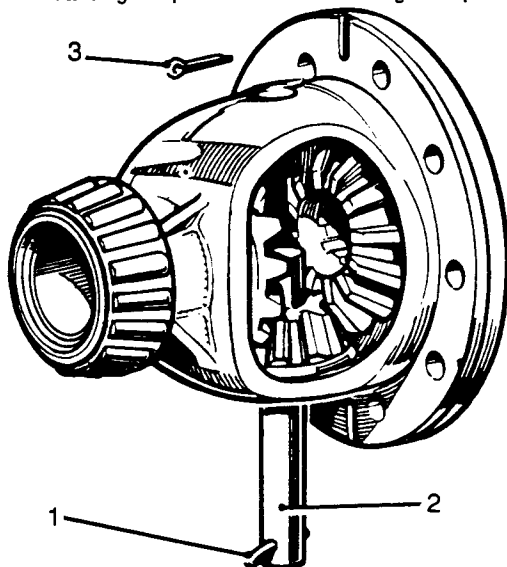

Fig J2.60
- (4) Refer to Fig J2.60. Ensure that the plain pin (1) is secure in the pinion spindle.
- (5) Fit the spindle (2).
- (6) Check for backlash between the differential wheel and pinions, a manual check is sufficient, no actual measuring is necessary. There must be a definite backlash, but this must be the minimum obtainable consistent with smooth running wheels and pinions. Adjustment can be made by changing the thrust washers for the differential wheels, which are available in a range of thicknesses.
- (7) Secure the spindle with a split pin (3).